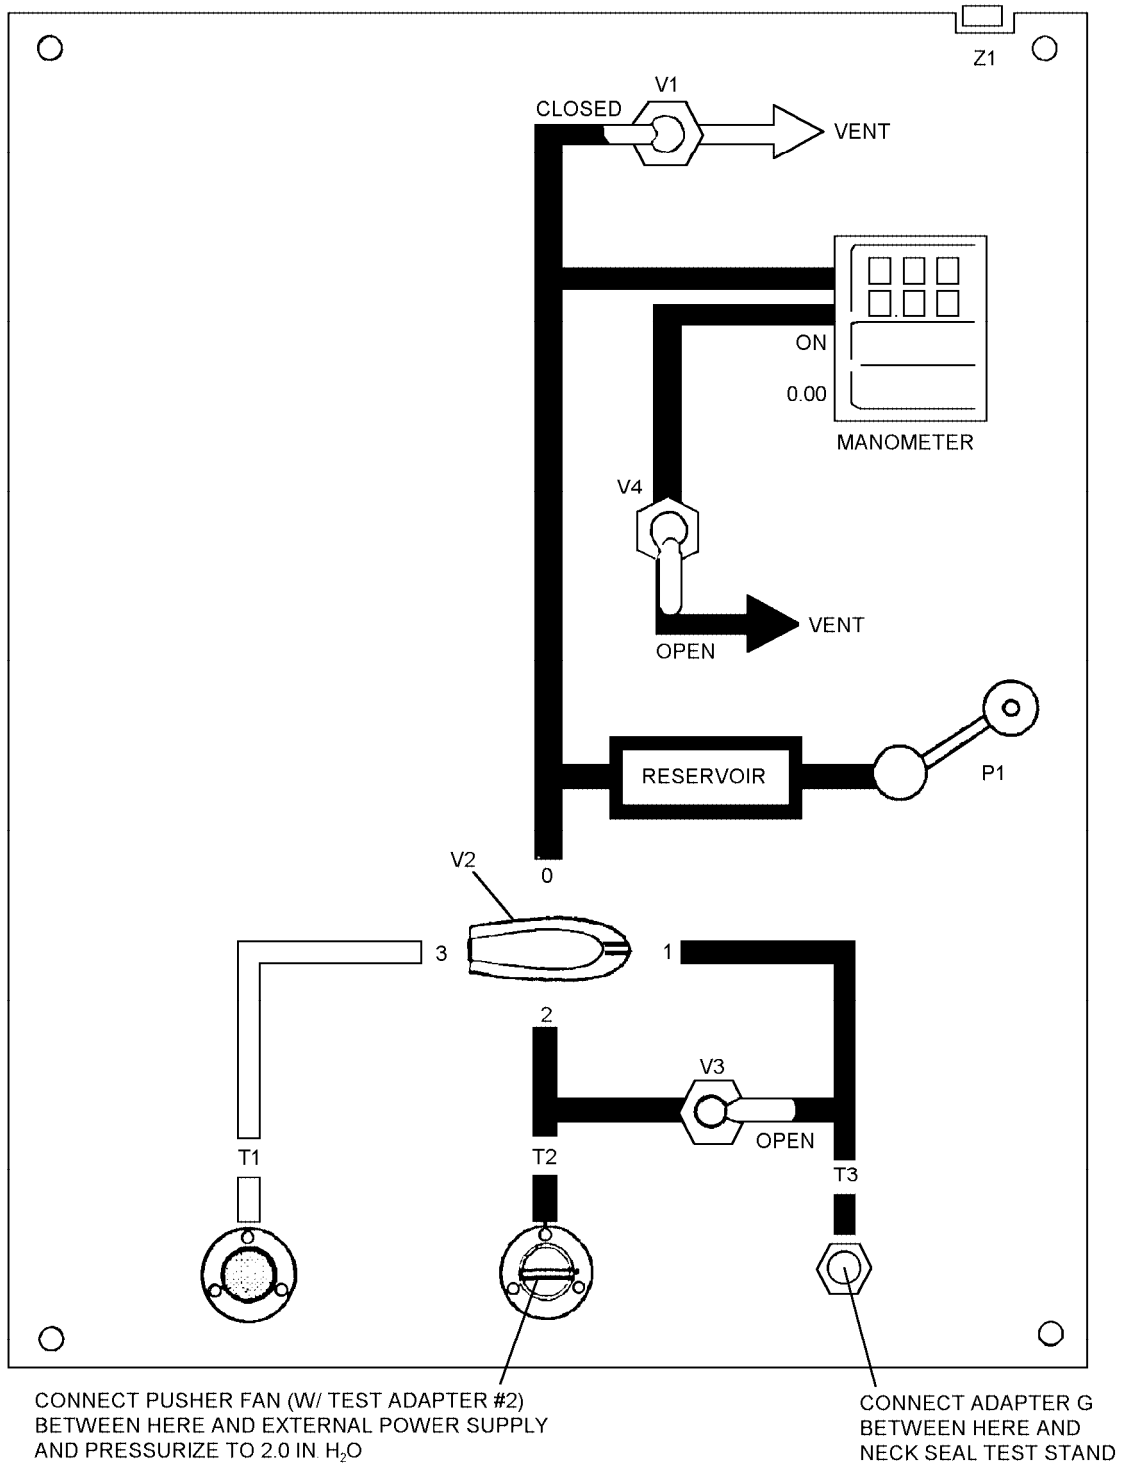

Figure 4-102. Hood Assembly - Overall Leakage Test
8. Connect one end of adapter G to T3 and other end to neck seal test stand port (figure 4-102).